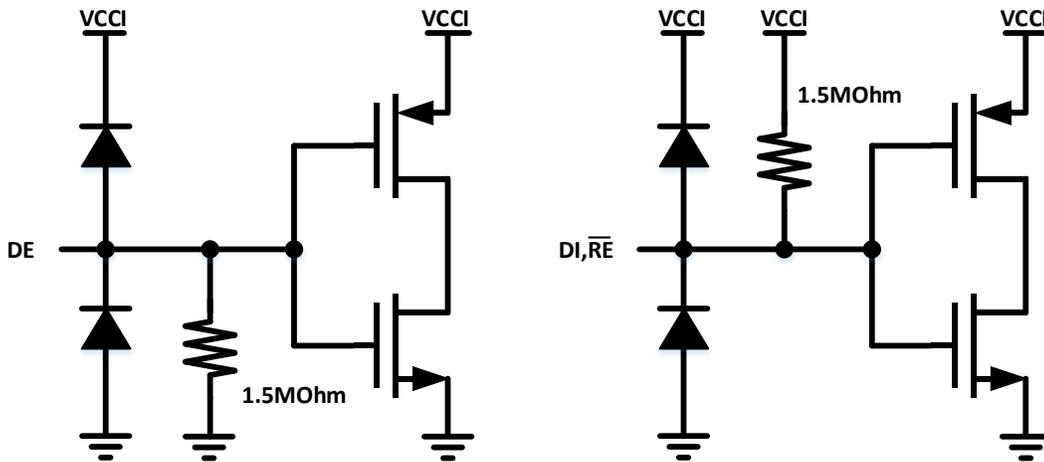

Figure 9-1. Input equivalent circuit
The CA-IS2092x devices include three logic inputs on the logic side: receiver enable, driver enable and driver digital input. The driver enable control DE pin has an internal weak pull-down to GNDA, while the digital input DI and receiver enable pins have an internal pull-up to VCC/VCCL, see Figure 9-1 the input equivalent circuit.
The transmitter converts a single-ended input signal (DI) from the local controller to differential outputs on the bus lines A and B. The truth table for the transmitter is provided in Table 9-2, the driver enable control DE pin has an internal weak pull-down to GNDA, see Figure 9-1 the input equivalent circuit; while the digital input DI pin has an internal pull-up to  $V_{CC}$  for CA-IS2092W or  $V_{CCL}$  for CA-IS2092VW. The driver outputs and receiver inputs on the bus side are protected from  $\pm 20kV$  electrostatic discharge (ESD) to GNDB, as specified by the Human Body Model (HBM). The driver outputs also feature short-circuit protection and thermal shutdown.